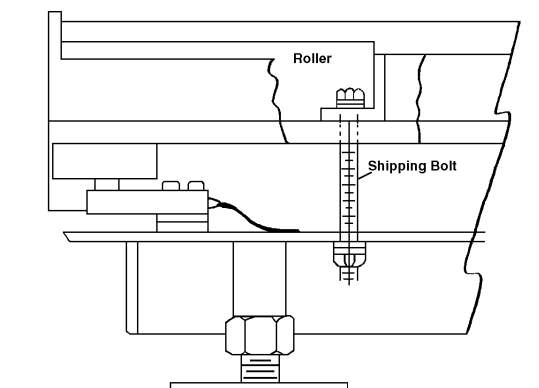

Figure 2-3. Shipping Bolt
4. With the frame properly anchored, remove the four shipping bolts from each platform (see Figure 2-3).